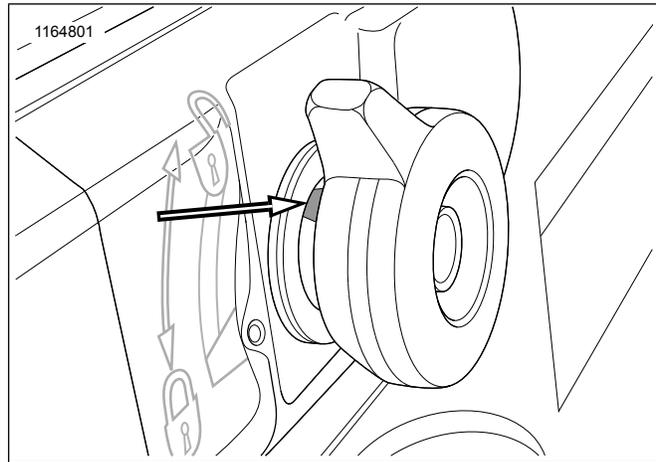

Figure 3. Gray Spacer Installed
3. Refer to Figure 3. With the lock knob in the unlocked position, verify that the gray spacer is installed.